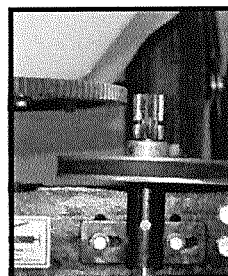

Fig.23: Gap between drive assembly and mixing drum gear.
- b. Place drum onto drum support beam. There may be a gap between the drive assembly gear and the mixing drum gear. (Fig.23)